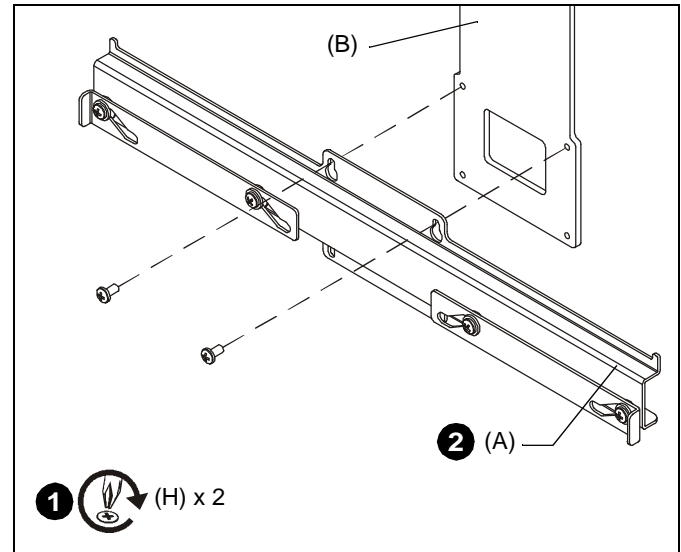

Figure 3
1. Partially install two 10-24 x 3/8" Phillips pan head screws (H) into the top two holes on shelf upright (B). (See Figure 3)
2. Raise center assembly (A) up to hang it on two screws inserted in Step 1. (See Figure 3)